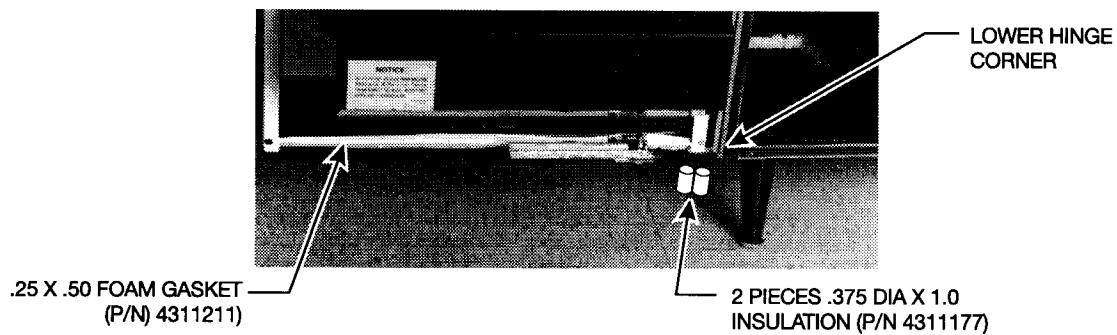

Figure 12
2. Across the inside face at the bottom, apply 23 inches of .125 x .50 foam gasket (4311211). **See Figure 12.**
3. In the lower hinge corner, fill the gap with two 1-inch pieces of .375 diameter insulation (4311177). Seal with silicone. **See Figure 12.**